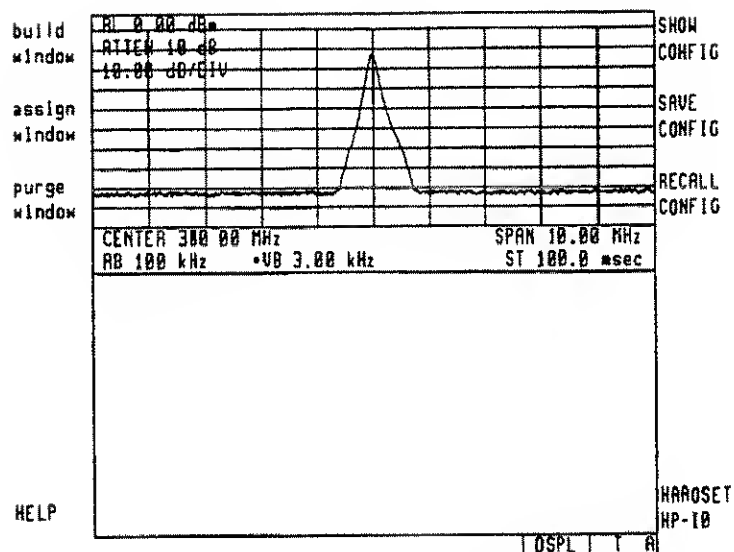

Figure 2-23. Assigning the Other Window
6. Press **EXECUTE**, and the display should shift to the other window, as in Figure 2-23.